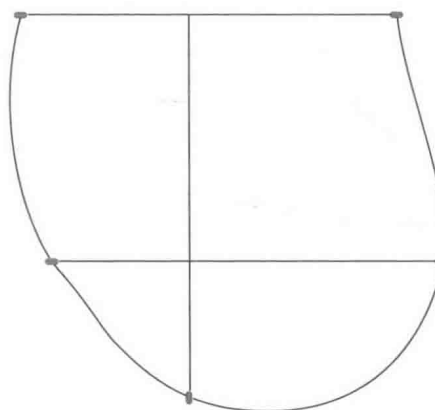

FIGURE 5.6 Using measurements taken of the body crotch curve length, locate and draw the hip joint level on the crotch curve tracing.
10. For this step, use the measurements taken during the body measurement process. Measure from the inseam, along the curve, to the hip joint level in front, and place a mark. Repeat for the back. Draw the hip joint level by connecting the front and back hip joint level marks. Draw the crotch depth line perpendicular to the hip joint level and through the inseam mark. The intersection of this line and the hip joint level lines must be at right angles (see Figure 5.6). These lines will be used to compare your traced crotch curve to the crotch curve of your pant pattern, and to make pattern alterations with outstanding results (see Chapter 6).